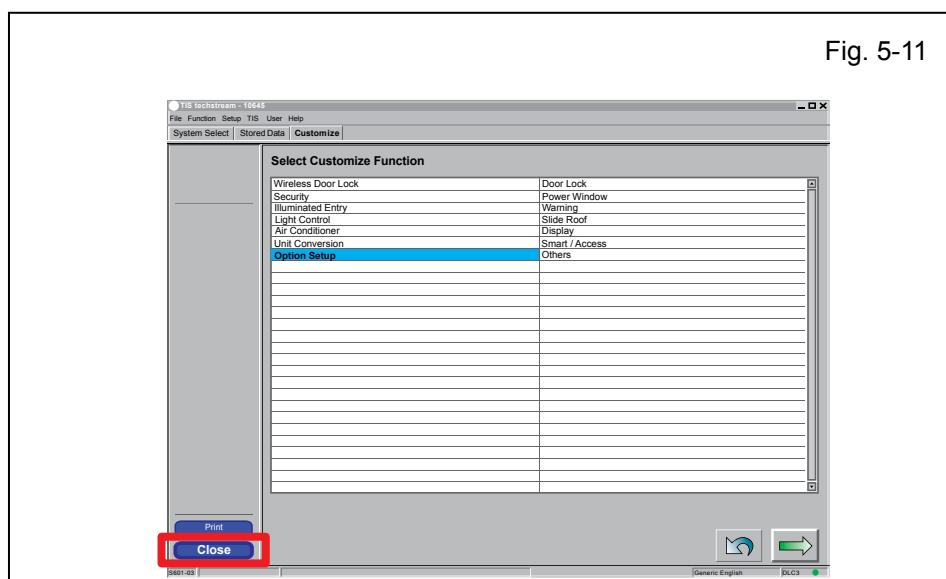

Fig. 5-11
- q. Click "Close". (Fig. 5-11)